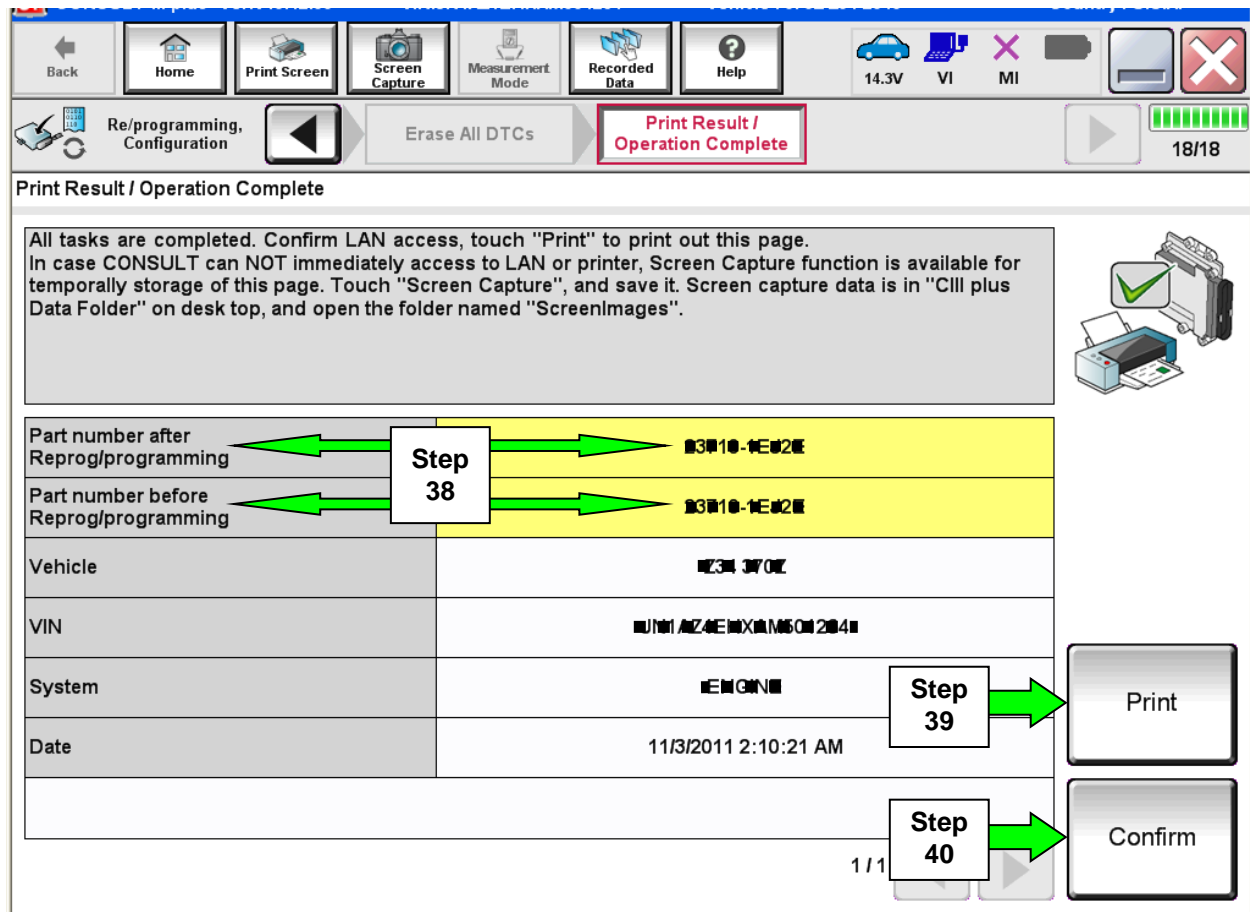

Figure 27
39. Print a copy of this screen (Figure 27) and attach it to the repair order.